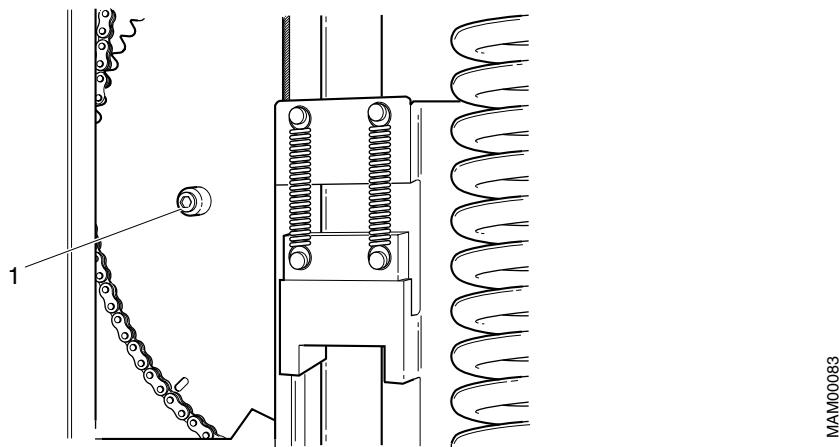

Fig. 6 Transport safeguard for the rotary motion
1. Remove the transport safeguard screw (1/Fig. 6) with spacer to enable rotary motion.